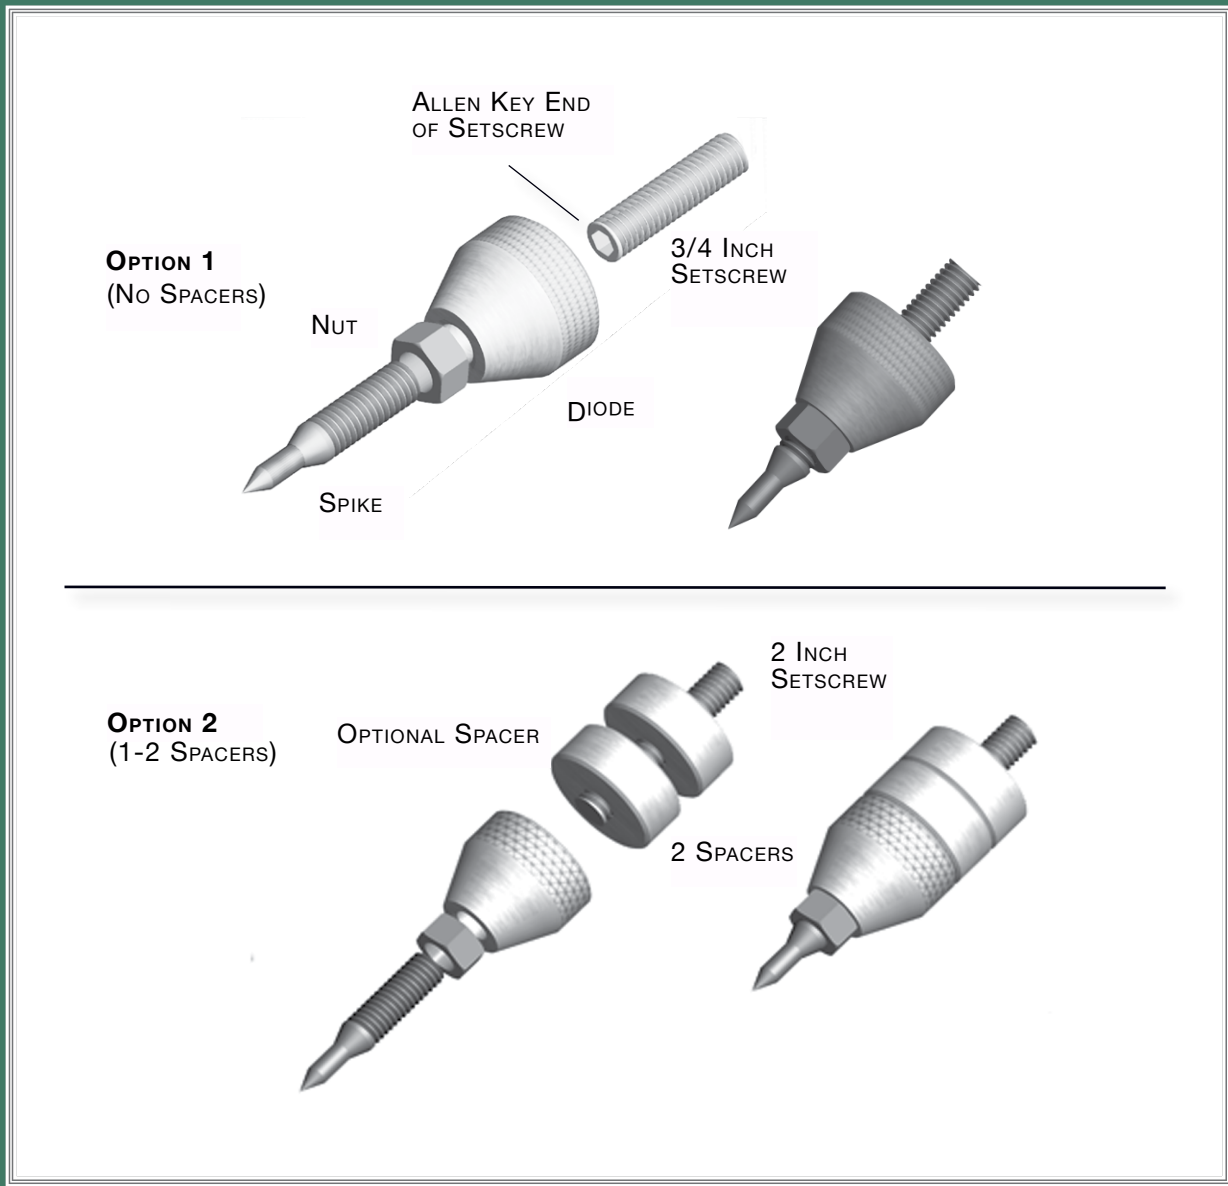
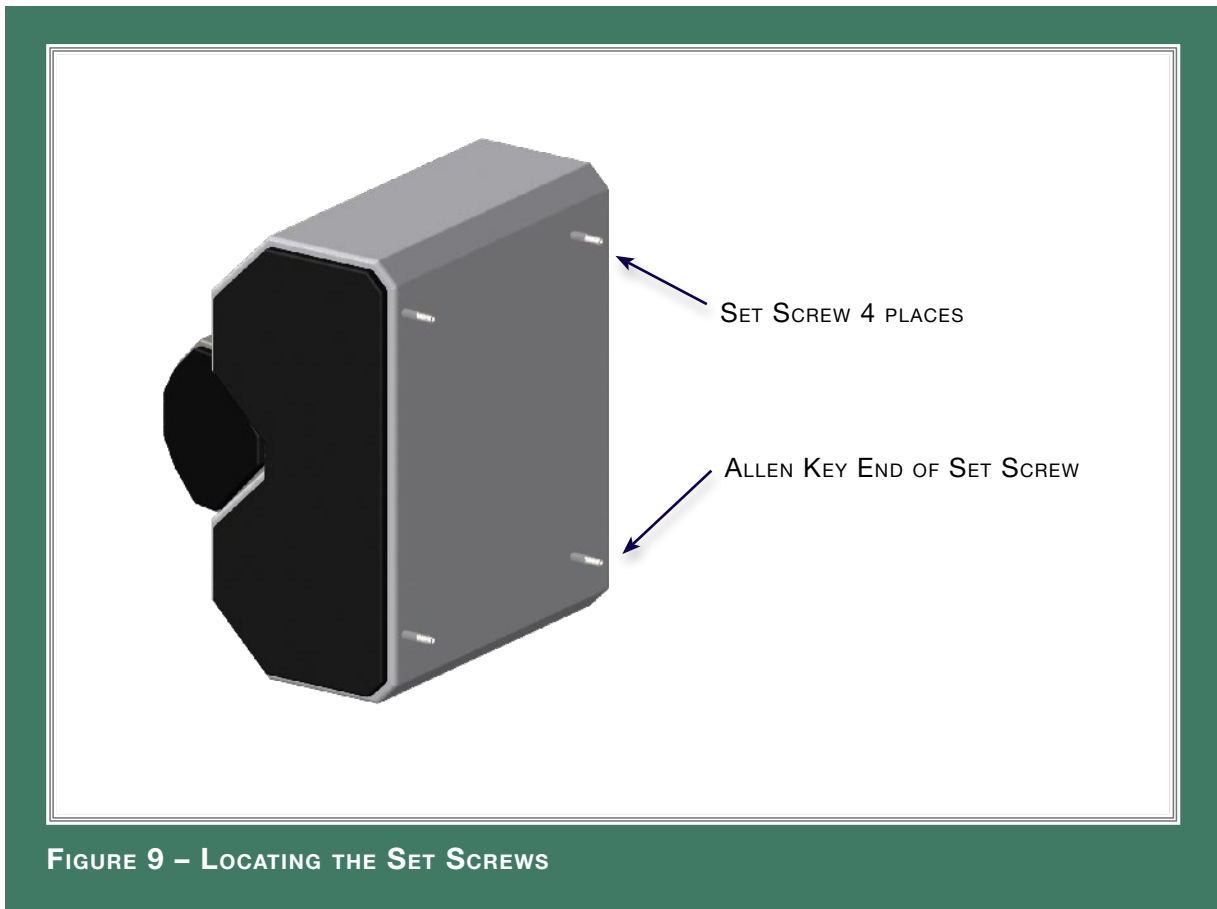

FIGURE 4 – CENTER CHANNEL SPIKES ASSEMBLY DIAGRAM
FIGURE 9 – LOCATING THE SET SCREWS
1. Back out the setscrews on the bottom of the enclosure to the desired height (see Figure 9) . Make sure the Allen key end is accessible.
The floor mounted Center channel must be rotated up toward the listening position. This is done by using a taller spike in the front than in the back of the speaker (see Figure 9). The default rotation is set by using a combination of a spike, nut, and a diode. If required, additional rotation can be achieved by using the provided 1/2" spacers between the diode and the bottom of the cabinet (see Figure 4). The amount of rotation depends on your listening position.